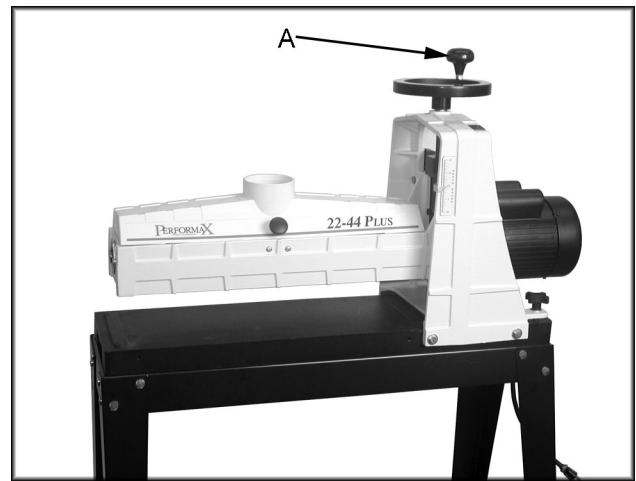

Fig. 1
1. Attach the knob (A, Fig. 1) to the handwheel and tighten with a 9/16" wrench.